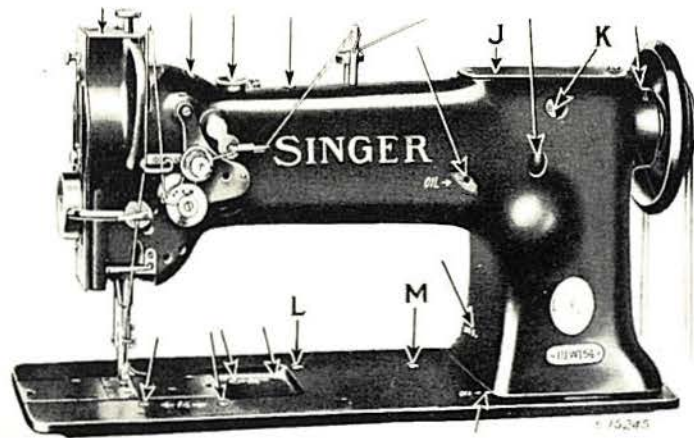
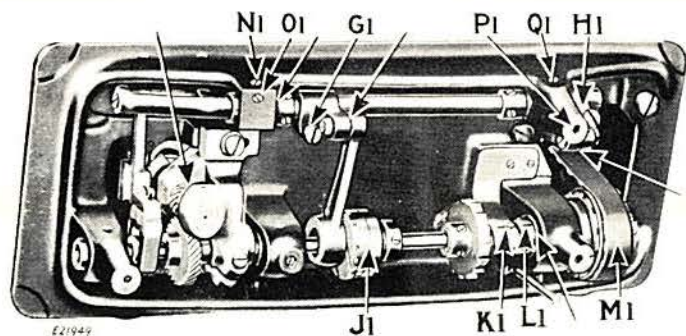

Fig. 2. Front of Machine Showing Oiling Points and Adjustments
Fig. 5. Base of Machine
Oil should be applied at the places designated by unmarked arrows in Figs. 2 to 6. Swing back the top cover (J, Fig. 2) and oil the bearings which are thus uncovered, then replace the cover.
Turn the machine back on its hinges and apply the oil at the places designated by unlettered arrows as shown in Fig. 5, and all other places where there are parts in movable contact, then bring the machine forward into place.
The number of stitches per inch is stamped on the stitch indicating disc (K, Fig. 2) located on the arm shaft.
To change the length of stitch, press down the plunger (L, Fig. 2) in the bed of the machine and at the same time turn the machine pulley slowly until the plunger enters a notch in the adjustable feed eccentric cam (J), Fig. 5). Still holding the plunger, turn the machine pulley forward or backward as required until the number of stitches per inch desired can be seen through the hole in the front of the arm (at K, Fig. 2), then release the plunger.